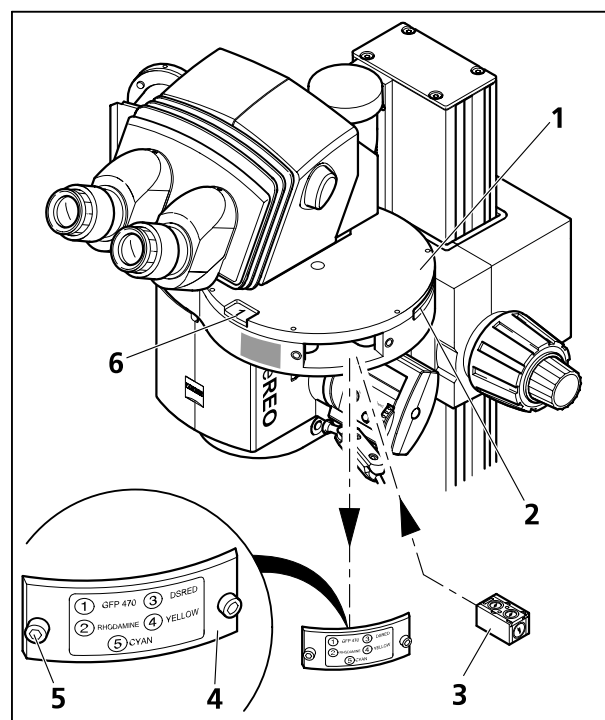

Fig. 23 Inserting filter blocks
- Unscrew the objective (Fig. 23/3) from the microscope body.
- Insert the coaxial epi-illumination S (Fig. 23/2) with the guide pin (Fig. 23/4) facing upward into the drill hole underneath mount S (Fig. 23/1).
- Screw both screws of the coaxial epi-illumination (Fig. 23/5) through the drill holes **A** (Fig. 23/5) into the mount S.
- Undo both screws (Fig. 23/5) and remove the cover (Fig. 23/4) from the mounting aperture of the PentaFluar vertical illuminator (Fig. 23/1).
- Insert the filter block (Fig. 23/3) in one of the five positions of the filter mount. To this end, push in the filter block through the installation aperture, until the magnetic fixation device catches the filter block and positions it in the correct place. When pushing the filter block in, take care that the barrier filters point up and the exciter filter points outward.
- Turn on the filter wheel at its knurling (Fig. 23/2) by one position and insert the next filter block.
The filter position swung into the light path is displayed in the read-out window (Fig. 23/6). To move this filter position into the installation aperture, turn on the filter wheel counterclockwise by two positions.
Affix the supplied self-adhesive labels for the filter combinations to the cover (Fig. 23/4) allocated to the corresponding position numbers.